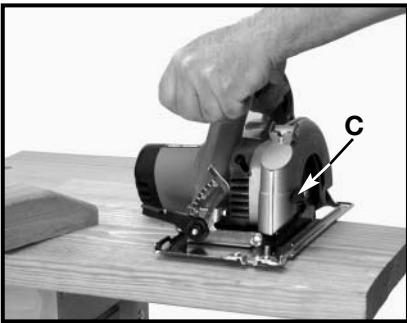
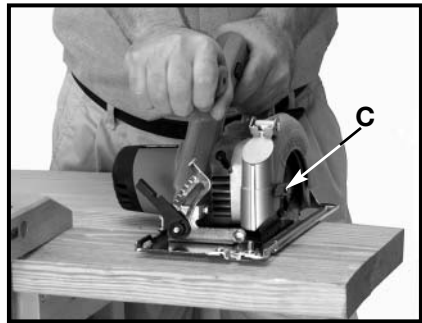

Fig. 21
Fig. 22
For your protection, effective control of this powerful saw requires two-handed operation. The saw may be operated either right-handed (Fig. 21) or left-handed (Fig. 22).
Clamp the workpiece on a rigid support such as a bench or saw horses (Fig. 21). Mark the line of cut on the work. Be sure that the cut-off line is beyond the end of the support to the left only enough to allow proper operation of the telescoping guard. Place the front edge of the saw squarely on the workpiece before starting the motor. Sight the cutting line with the line of cut indicator (P) Fig. 15. Back the saw up slightly and start the motor. Move the saw forward, keeping the edge of the line indicator parallel to the line of cut.
Cutting directly across the grain of a piece of lumber is called crosscutting. Fig. 21 illustrates a crosscut operation. Position the work so that the cut will be on the left.
**⚠ WARNING** Use the lever (C) Fig. 21 or 22 provided on the telescoping guard when retracting the telescoping guard manually.
Push the telescoping guard lever all the way back so the blade is exposed as shown in Fig. 21 or 22. Start the motor and lower the blade into the work. After the blade has cut through, and the base rests flat on the work, follow the line right up to the corner. Use a keyhole or bayonet saw to cut the corners out clean.